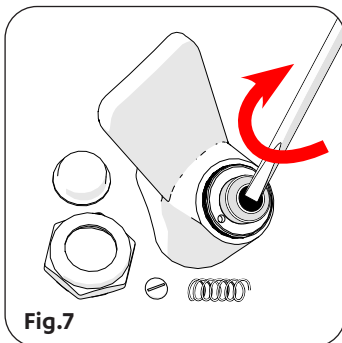

Fig.7
4. Using a flat screwdriver, with a 7-8mm wide blade free of wear that fits freely inside the Spring cavity, fully tighten the Cartridge Assembly Fixing Nut by turning clockwise (Fig.7).